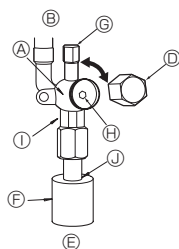

Fig. 4-6
(1) Gas/Liquid side of ZM35-71 (Fig. 4-6)
- ① Remove the cap and turn the valve rod counterclockwise as far as it will go with the use of a 4 mm hexagonal wrench. Stop turning when it hits the stopper. (ø9.52: Approximately 10 revolutions)
- ② Make sure that the stop valve is open completely, push in the handle and rotate the cap back to its original position.